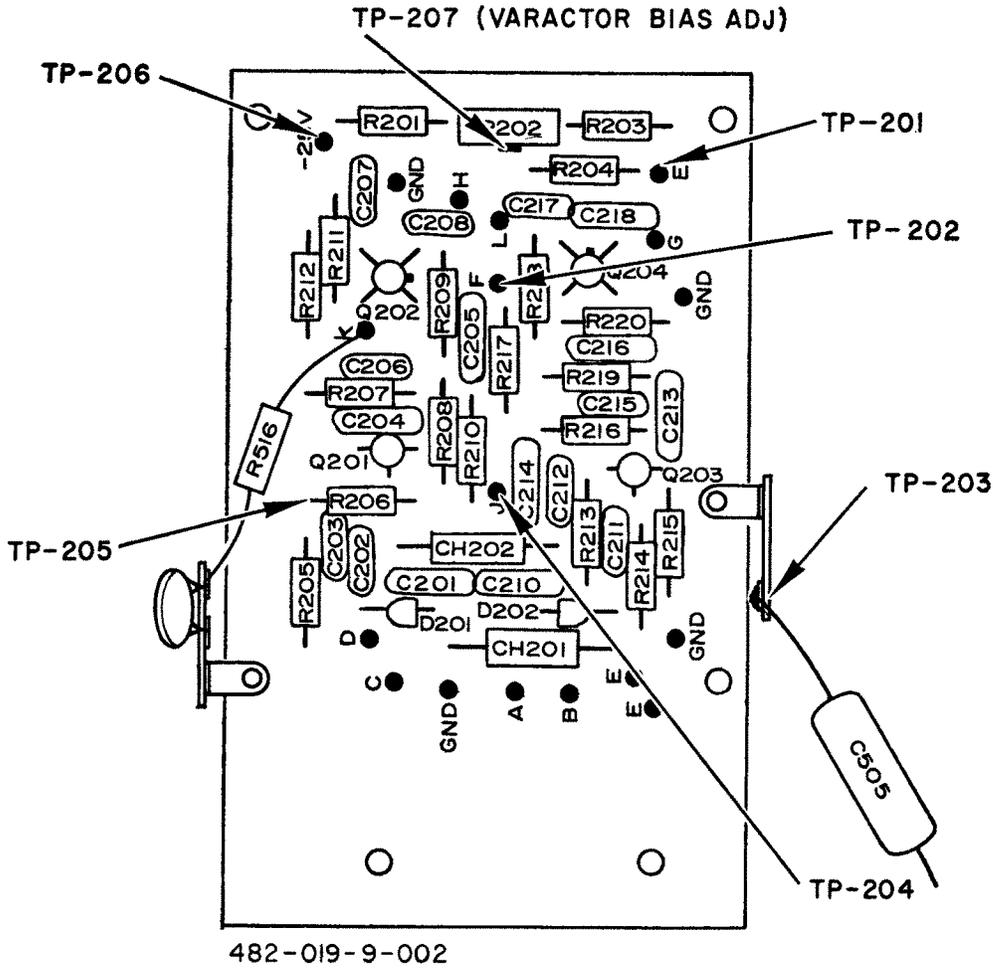

Figure 12.4. Parts Layout for Sweep Oscillator Board (Viewed from Component Side)
F. Sweep Oscillator Voltage at TP-203, Fig. 12.4 (22 V. P-P)